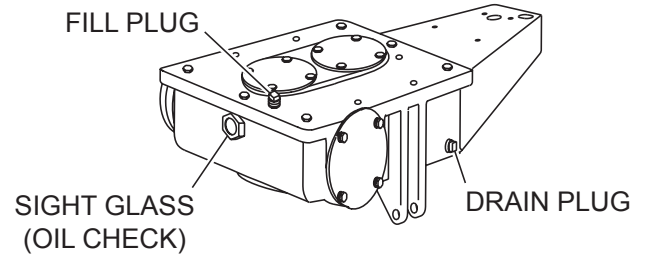

Figure 11. Gearbox Oil Plugs/Sight Glass
1. Check the gearbox oil level in both gearboxes by viewing the sight glass at the rear of the gearbox. See Figure 11.
2. The oil level of the gearbox should be at the halfway point of the sight glass (Figure 11). The gearbox oil capacity is 1 gallon (3.79 liters). If additional oil is required, unscrew the oil fill plug located on top of the gearbox, and refill with ISO 220 A GMA GR 5 EP oil.